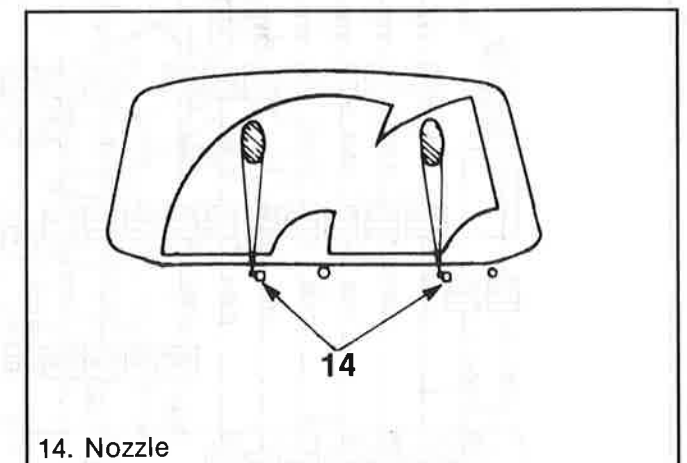

Figure 160. Windshield Washer Spray 2
- Washer Nozzle (14) spraying point is shown as illustrated (figure 160).